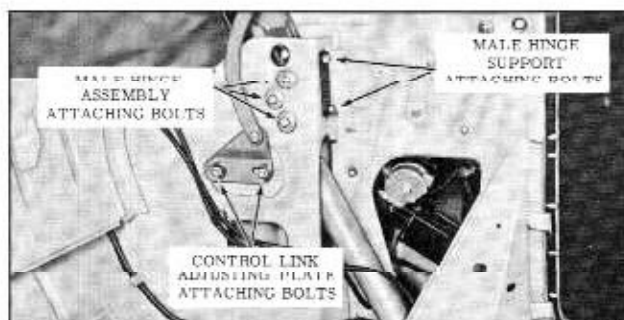

Fig. 17-118 Folding Top Adjustments
- a. Remove folding top compartment side trim panel and loosen two bolts securing control link adjusting plate sufficiently to permit adjustment of plate. (Fig. 17-118)
- a. Loosen male hinge assembly attaching bolts. (Fig. 17-118)
bolts. (Fig. 17-118)
- d. Tighten hinge support front attaching bolts, then while maintaining proper alignment of scribe marks on top of hinge, tighten hinge assembly attaching bolts. (Fig. 17-118)